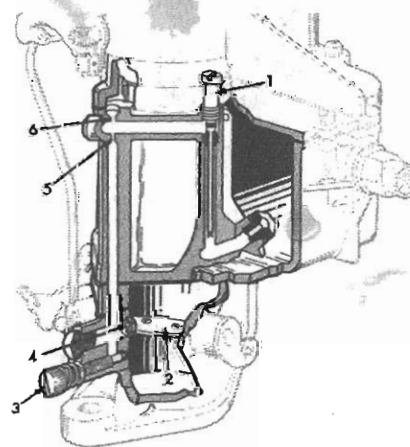

FIG. 3
Low Speed (Idle) System -- The idle or low speed system (see Fig. 3) completely controls the supply of fuel to the engine during idle and at speeds up to approximately 20 mph. (32.2 km). During the idle operation with a high vacuum, fuel is drawn from the bowl through the idle orifice tube (1) and then combines with the air drawn in from the air horn through the air bleed (6). The mixture then passes through the economizer (5) which tends to break it down into a finer vapor. The fuel-air mixture flows downward and out into the carburetor bore. The